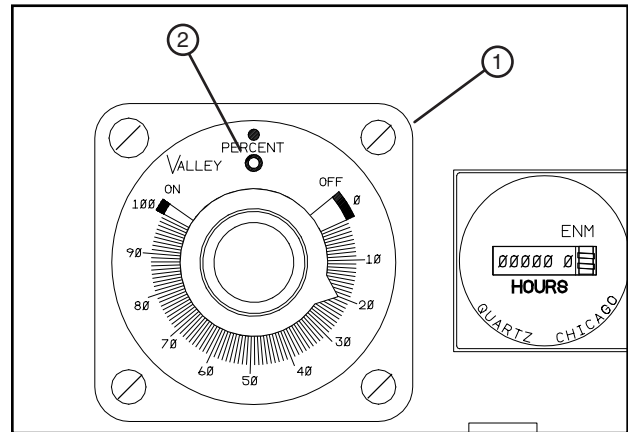

Figure 33-1 ATC Percent Timer Shown
1. Set the percent timer to 20% on the dial. See Figure 33-1.
<p>The Eagle HQ4E has an indicator light that is ON solid during the timer ON cycle. It blinks twice per second during the timer OFF cycle. See Figure 33-1.</p>	<p>The ATC 304GX has an indicator light that is ON solid during the timer OFF cycle. It blinks at a variably increasing rate during the ON cycle. See Figure 33-1.</p>